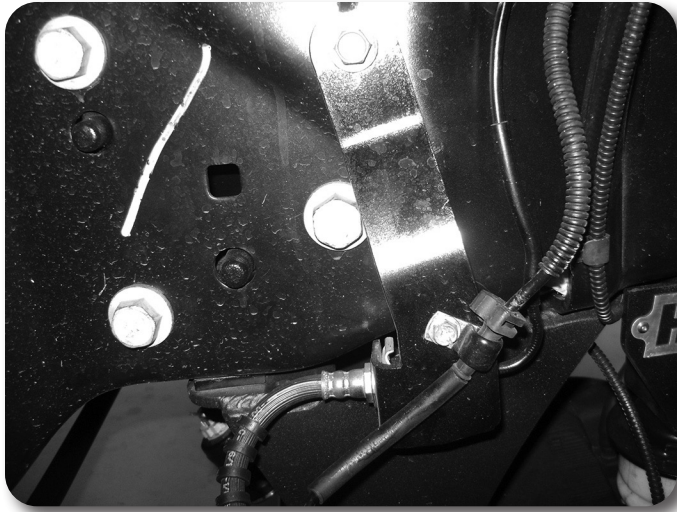

Figure 15B (Driver's Side)
27. Install the new radius arm to the factory axle mounts. The end of the radius arm with the cam tabs goes to the bottom axle mount. Figure 13a. Loosely fasten the radius arm with the factory hardware. At the lower mount, install the provided rectangle cam plates on the new 18mm x 150mm bolt with a 3/4" SAE flat washer. The cam should be installed so the bolt is forward in the slot. Figure 15B Leave hardware loose.
38. Attach the ABS wire to the driver's side with 1/4" hardware with rubber coated cable clamp Figure 15B. Tighten to 101 in-lbs.